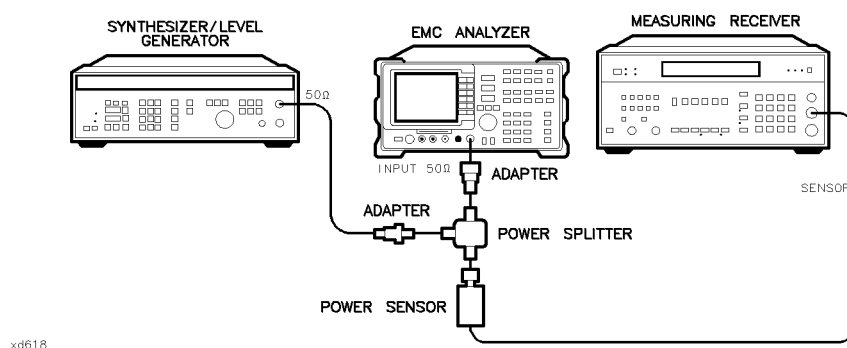

Figure 2-28. Frequency Response Test Setup, <50 MHz, HP 8594EM
18. Connect the equipment as shown in Figure 2-28, with the power sensor connected to power splitter.